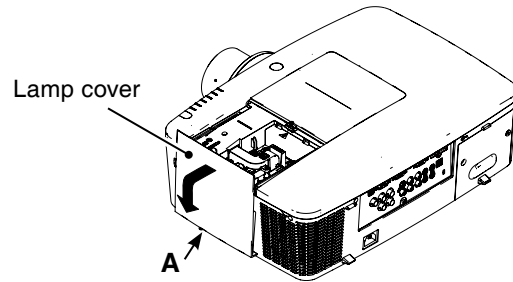

Fig. 1
- 1** Loosen a screw-A on the lamp cover and slide it to open (Fig. 1).